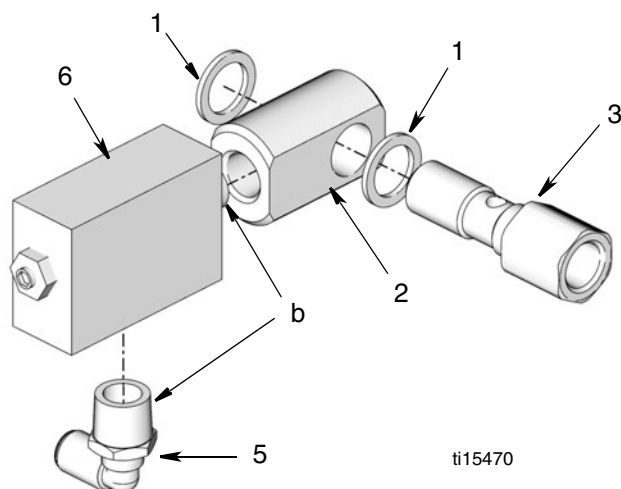
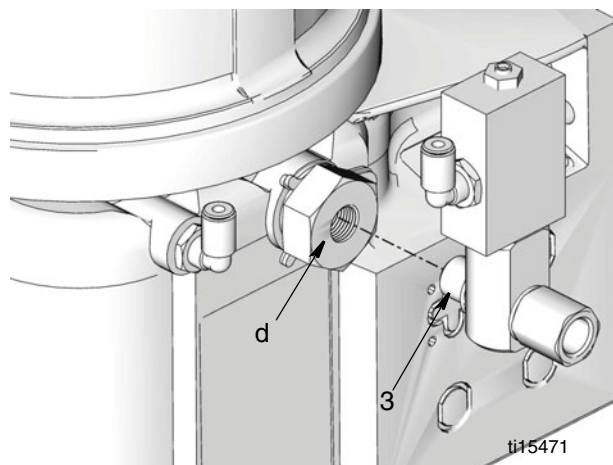

FIG. 4
FIG. 5
7. Apply thread sealant (user supplied) to threads (b) of pressure relief valve (6) (FIG. 4).
8. Install pressure relief valve (6) into banjo fitting (2). Wrench tighten (FIG. 4).
9. Install one washer (1) over end banjo bolt (3). Then install banjo fitting (2) onto banjo bolt (3). Install second washer (1) over end of banjo bolt. (FIG. 4).
10. Apply thread sealant (user supplied) to threads (b) of second 90° tube elbow fitting (5). Install fitting in pressure relief valve. Wrench tighten.
11. Install banjo bolt (3) into pump element (d) (FIG. 5).